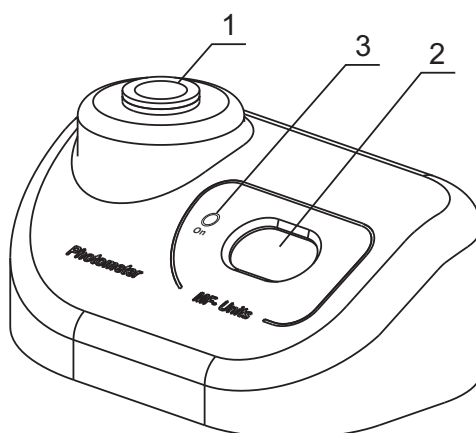

Fig.3 General view
- 3.4.5. Insert the tube with the standard solution, corresponding to the calibration point value, into the socket (fig.3/1) of Densitometer.
- The display goes off if there is no tube in the socket during one minute. Press the **On** key (fig.3/3) to activate the unit.
- 4.3. The following indication may be shown on the display (fig.3/2):
- 4.4. Shake the tube with the solution (it is recommended to use a vortex for shaking, e.g. V-1 plus personal vortex) and insert it into the socket of Densitometer (fig.3/1). The McFarland value for the solution will be shown on the display (fig.3/2).